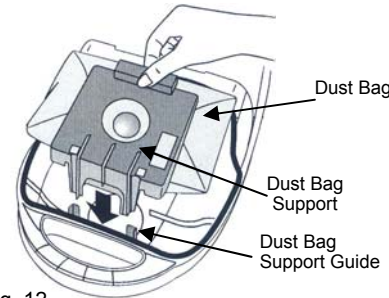

Fig. 12
4. Insert the dust bag support back into the dust bag support guides in the dust bag compartment making sure that no part of the bag is in contact with the rubber seal and that it is hanging correctly inside the dust bag compartment. (Fig. 12)